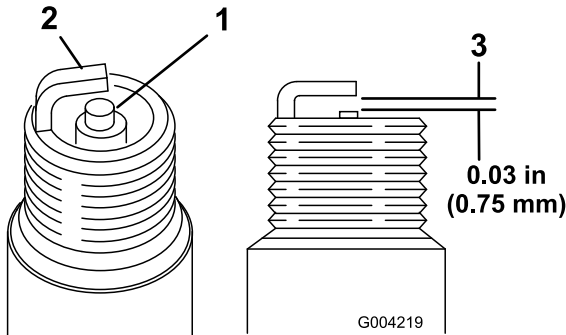

Figure 41
1. Look at the center of both spark plugs (Figure 41). If you see light brown or gray on the insulator, the engine is operating properly. A black coating on the insulator usually means that the air cleaner is dirty.
2. Check the gap between the center and side electrodes (Figure 41).
3. Bend the side electrode (Figure 41) if the gap is not correct.